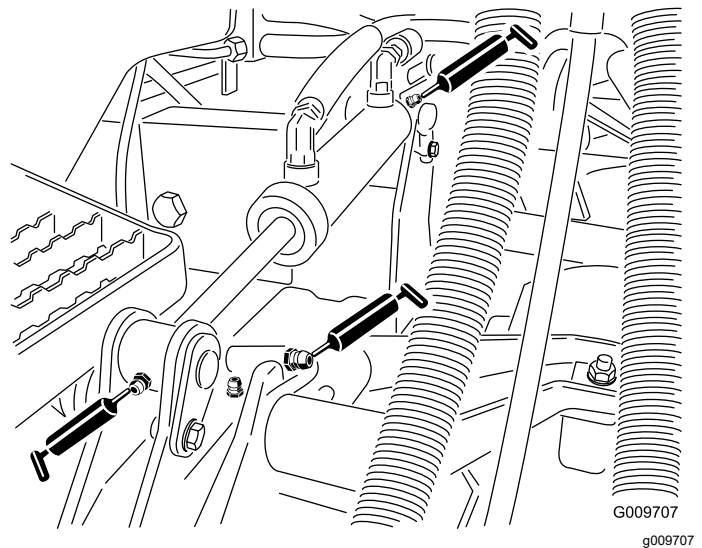

Figure 53
- Lift-arm bushings (1 per cutting unit) as shown in Figure 53
- Lift-cylinder bushings (2 per cutting unit) as shown in Figure 53